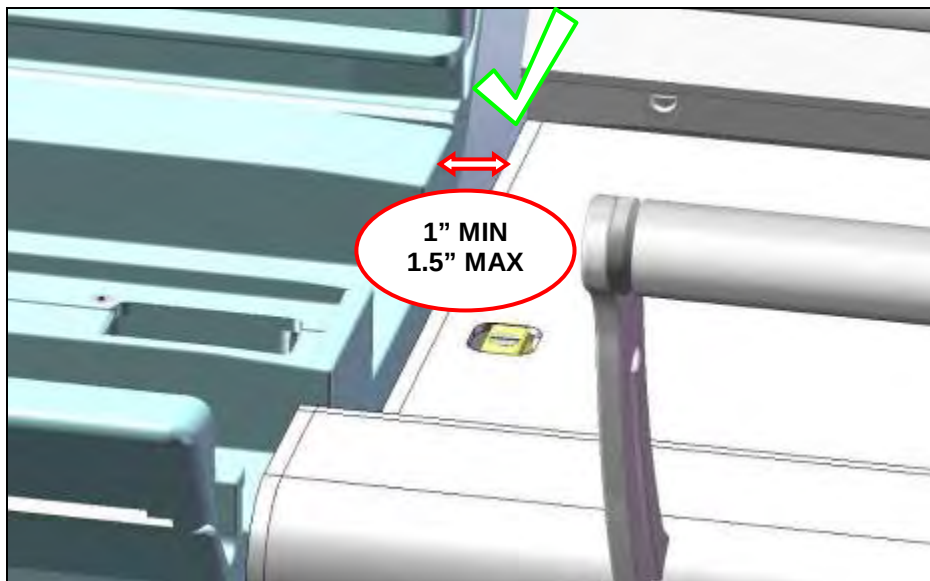

Figure 45
1. Dock the stretcher to the scanner and measure the gap between the stretcher LBS and the scanner with a MRI compatible ruler. This gap must be 1" (+ 0.5/ -0) or 25.4mm (+12.7/ -0) when the system is docked (Figure 45).
3. Move the LBS by loosening with a 9/16" wrench or ratchet the four hex head bolts which are located inside the LBS. Access these bolts by reaching through the drawer openings in the RSA and upward to locate the bolt heads on the top of the RSA plate on which the LBS is mounted (Figure 46). Set the gap distance of 1" to 1.5" (25.4mm to 38.1mm) (Figure 45). When complete, tighten the four bolts firmly to fasten the LBS in place.